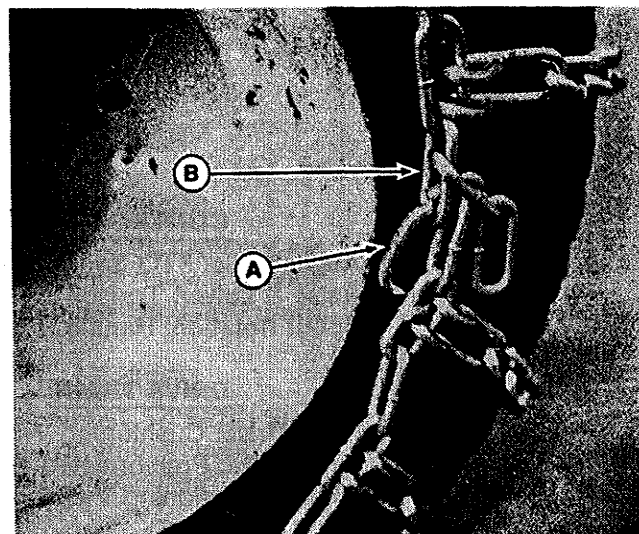
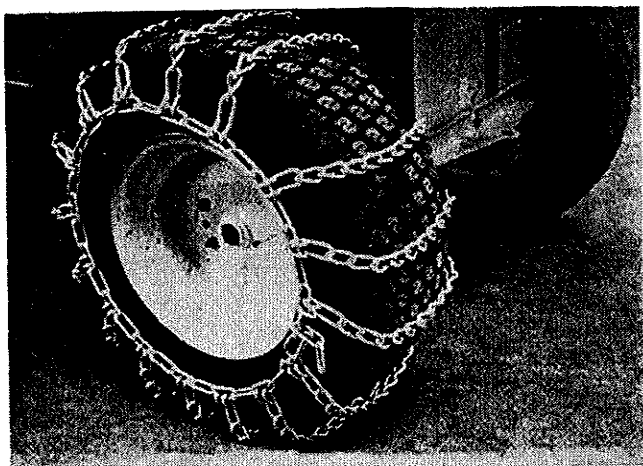

Figure 32
Figure 31
5. Pull the chain over the top of the tire until side chains are tight and cross chains are positioned as shown in figure 31.
7. The fastener must be connected so that the chain has a snug fit on the tire as shown in figure 31. A closeup of the fastener connection is shown in figure 32. Insert the fastener thru the appropriate end link and then hook it to the chain as shown in figure 32. A pair of pliers can be used to assist in connecting fastener.